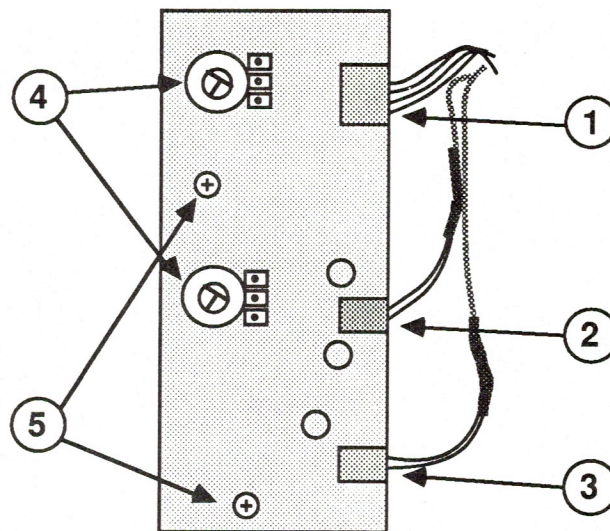

FIGURE 10
4. Remove the wires from the cable clamps. Disconnect the upper (Figure 10, #1), middle (Figure 10, #2), and lower connectors (Figure 10, #3) on the contrast control board.
5. Pull the two knobs off of the board (Figure 10, #4).
6. Remove the two screws holding the board in place (Figure 10, #5).
1. Position the contrast control board against the chassis so that the two screw holes in the board line up with the corresponding holes in the chassis. Replace the two screws (Figure 10, #5).
2. The contrast control knob stems are keyed so that the knobs will fit in only one position. Look at the inside of the knobs and align them with the knob stems. Slide the knobs onto the stems (Figure 10, #4).
3. Reconnect the four-pin connector from the logic board (Figure 10, #1), the two-pin connector from the video board "C" (Figure 10, #2), and the two-pin connector from the interface connector (Figure 10, #3).